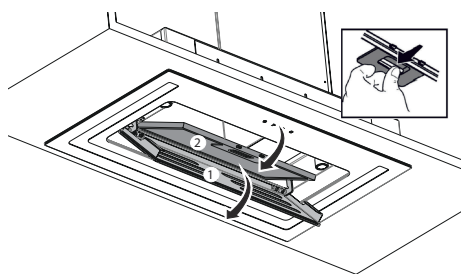

Fig. 7: Removing the metal oil filters
If the product has carbon filter, remove the carbon filter on the product prior to cleaning the aluminium filter. (Fig. 7).
1. ➤ Open the side aspirator (Fig. 7/1).
3. ➤ Open the lock of the metal oil filter (Fig. 7/2) and ensure that it will not fall.
4. ➤ Tilt the metal oil filter forward and lift it out (Fig. 7/2).